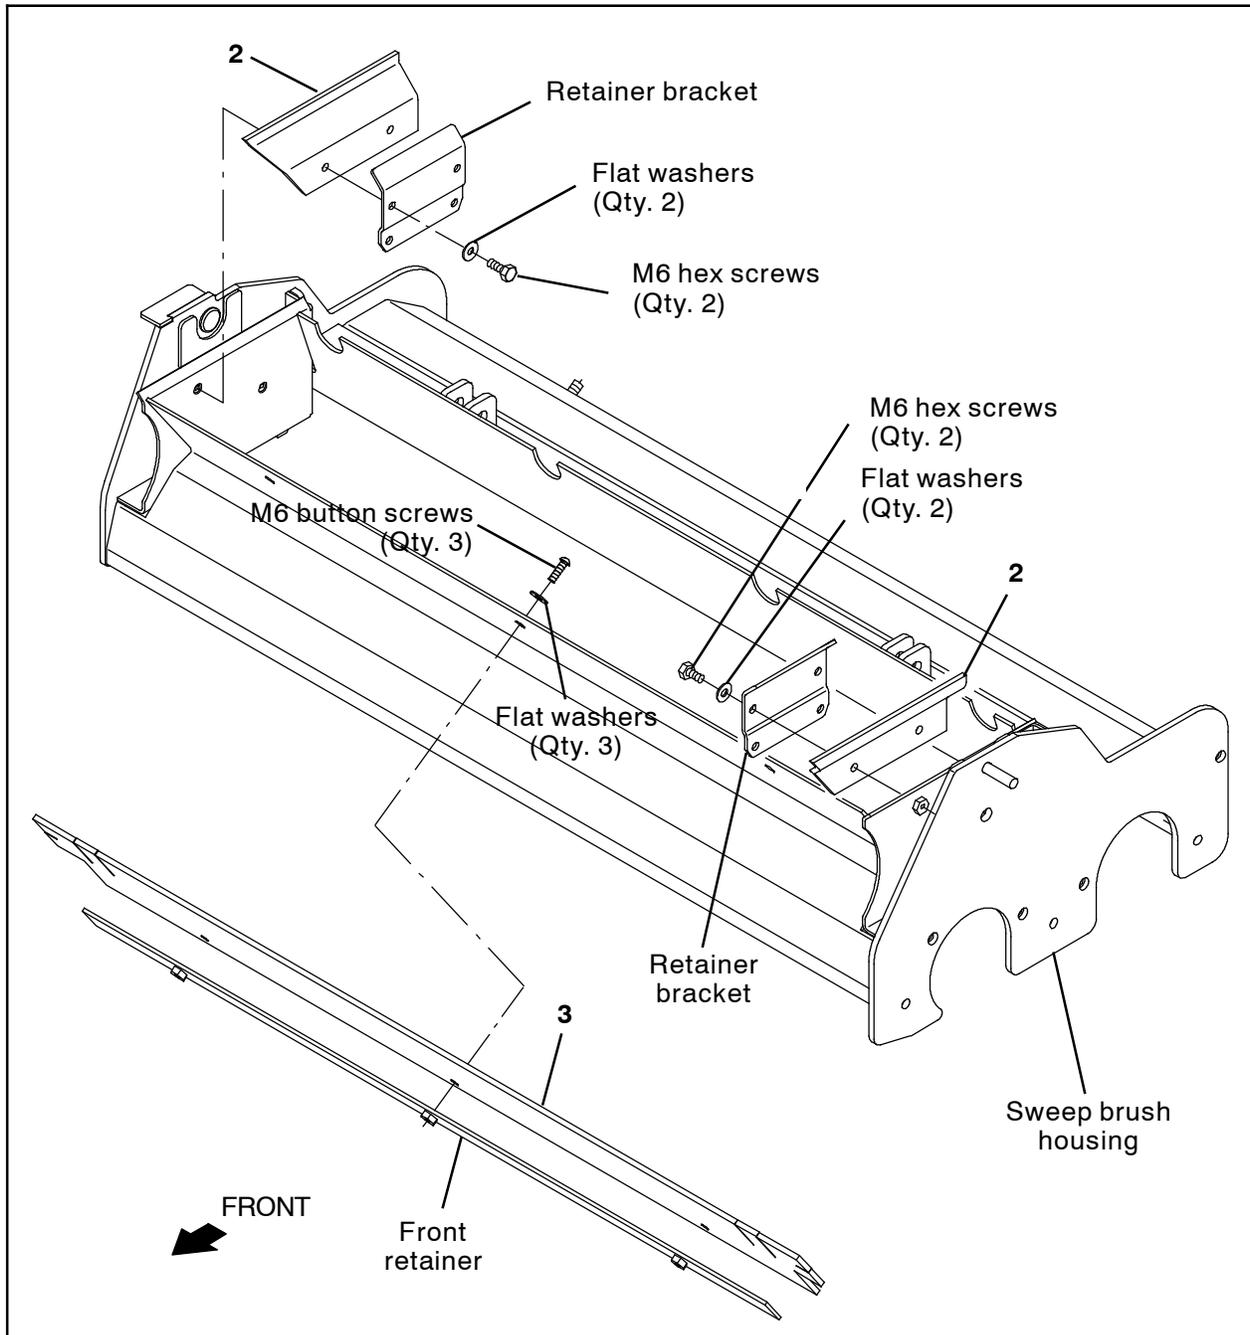

FIG. 2
1. Remove the blade deflector skirt from the sweep brush housing. Set the front retainer, flat washers, and M6 button screws aside. Discard the blade deflector skirt. (Fig. 2)
2. Use front retainer and saved hardware to install the new blade deflector skirt (3) onto the sweep brush housing. (Fig. 2)
3. Remove both deflector skirts from the sweep brush housing. Set both retainer brackets, flat washers, and M6 hex screws aside. Discard both deflector skirts. (Fig. 2)
4. Use the retainer brackets and saved hardware to install the new deflector skirts (2) onto the sweep brush housing. (Fig. 2)